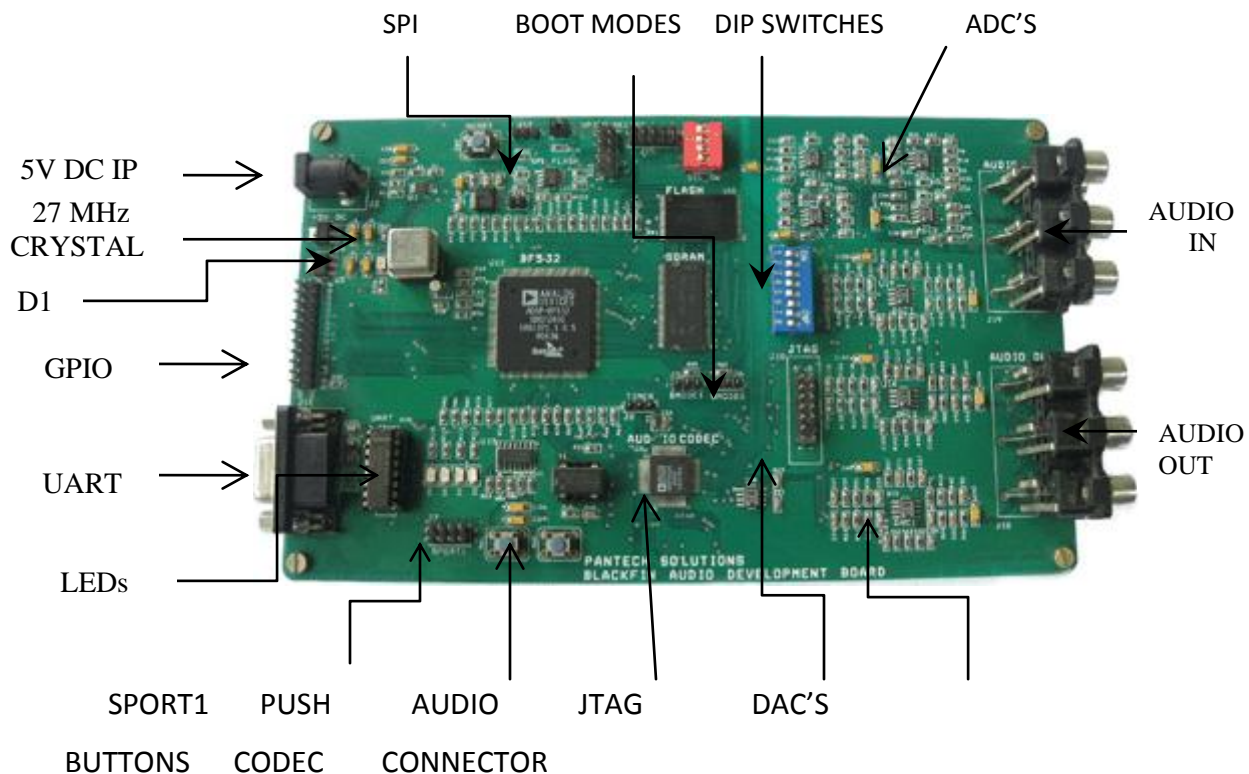

Fig 3.2: Blackfin audio development board connections
The processor has 15 programmable flag pins (PFs). The pins are multi-functional and depend on the processor setup. Following table is a summary of the programmable flag pins are used on the Audio Development Board for switches and LEDs. Two push buttons, SW1 and SW3 are provided for general-purpose user input. The buttons connect to the processor's programmable flag pins PF7, PF6. The push buttons are active "LOW" and, when pressed, send a Low (0) to the processor. The programmable flag signals and their corresponding switches are shown in fig3.2.